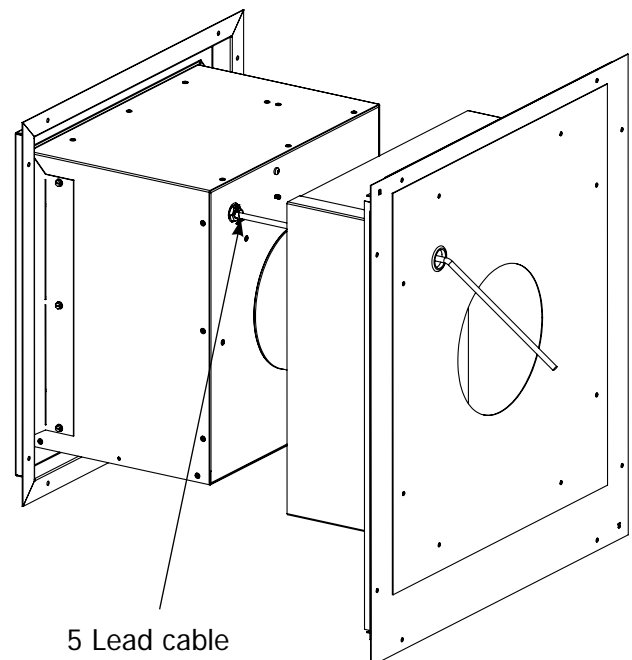

Figure 11: Cable Routing
c) Then feed the cable through the strain relief on the back of the power vent terminal. Roughly 3-6" of harness is recommended to be feed into the power vent terminal. See Figure 11 for reference.
d) Tighten the two (2) screws on the strain relief to clamp down and secure the cable within the power vent terminal.